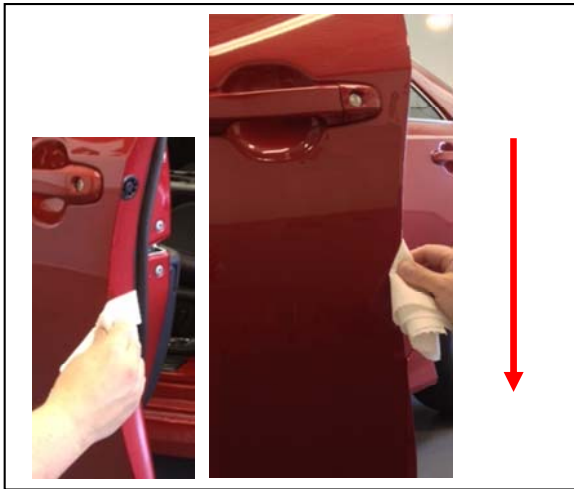

Fig. 1-2
- (b) Using the second lint free cloth, thoroughly dry the area free of Simple Green (or VDC approved cleaner) previously applied. In some instances a rubber weather seal may be found – ensure to clean between the trailing edge and rubber seal (Fig. 1-2). Turn the cloth repeatedly to attain a dry surface.
- (3) Repeat Step (2) if resistance is NOT felt and the “SQUEAKY CLEAN” sound is NOT heard. Keep repeating Step (2) until resistance is felt and a “squeaky clean” sound is heard.
(b) Using the second lint free cloth, thoroughly dry the area free of Simple Green (or VDC approved cleaner) previously applied. In some instances a rubber weather seal may be found – ensure to clean between the trailing edge and rubber seal (Fig. 1-2). Turn the cloth repeatedly to attain a dry surface.